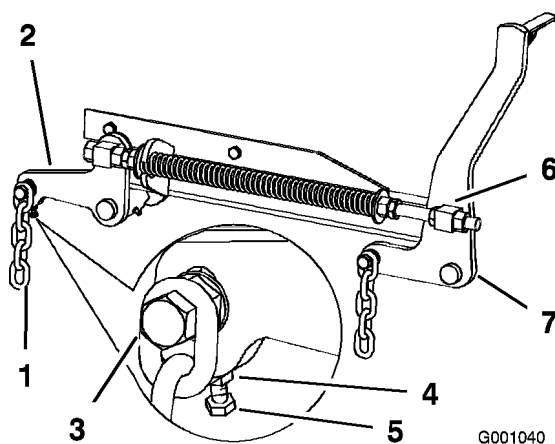

Figure 73
7. If the measurements at positions **B** or **C** are not correct, loosen the bolt attaching the rear chain to the rear support arm (Figure 73).
8. Loosen the jam nut under the rear support arm and adjust the adjustment bolt to get a measurement of 3-1/8 to 3-1/4 inches (Figure 73).
7. Loosen the front swivel jam nuts, at the front of the right and left swivels, approximately a 1/2 inch (13 mm) (Figure 73).
8. Adjust the lift nuts on both the left and the right side of the machine to achieve 1/4 to 3/8 inch (6 to 10 mm) lower in front at **A** than in the rear at **B** (Figure 73).